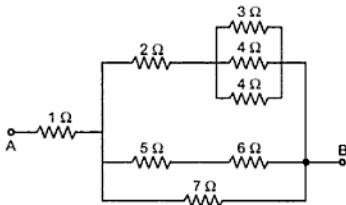

Fig. 1.24
►►► **Example 1.13 :** Find the equivalent resistance between the two points A and B shown in the Fig. 1.24.